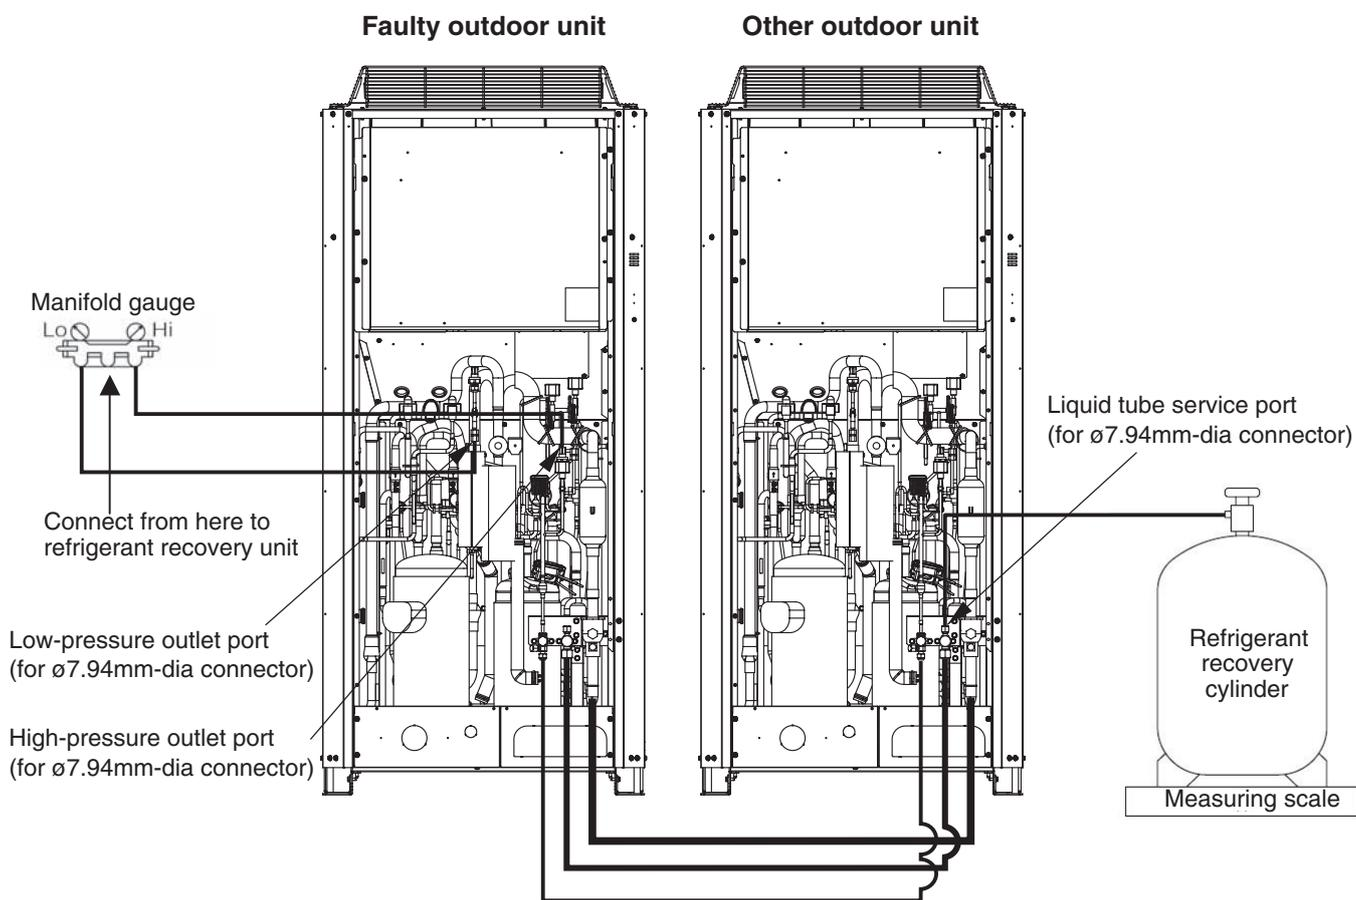

Fig. 14
- (1) Refer to "3. Backup Operation" and perform backup operation.
- (2) Connect the manifold gauge valves at the Lo side to the low-pressure outlet port of the outdoor unit to be repaired. Also connect the refrigerant recovery cylinder to any one of the normal outdoor units at the liquid line service port (Schrader-type push-to-release valve). Perform the connection work quickly so that no air is allowed to enter. (Fig. 14)
- (2) Connect the manifold gauge valves at the Lo-side to the low-pressure outlet port of the outdoor unit to be repaired. Also connect the refrigerant recovery cylinder to any one of the normal outdoor units at the liquid line service port (Schrader-type push-to-release valve). Perform the connection work quickly so that no air is allowed to enter. (Fig. 14)